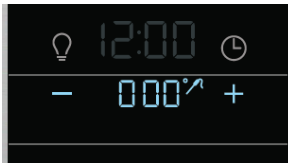

Figure 22: Probe inserted and ready to set temperature
- When the probe is inserted, an acceptance tone will sound, the probe icon appears in the display (See Figure 22). Close the oven door.